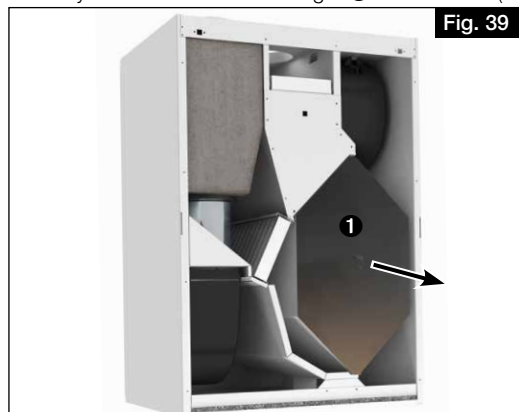

Fig. 39
3. Carefully remove the heat exchanger ❶ from the unit (see Fig. 39).